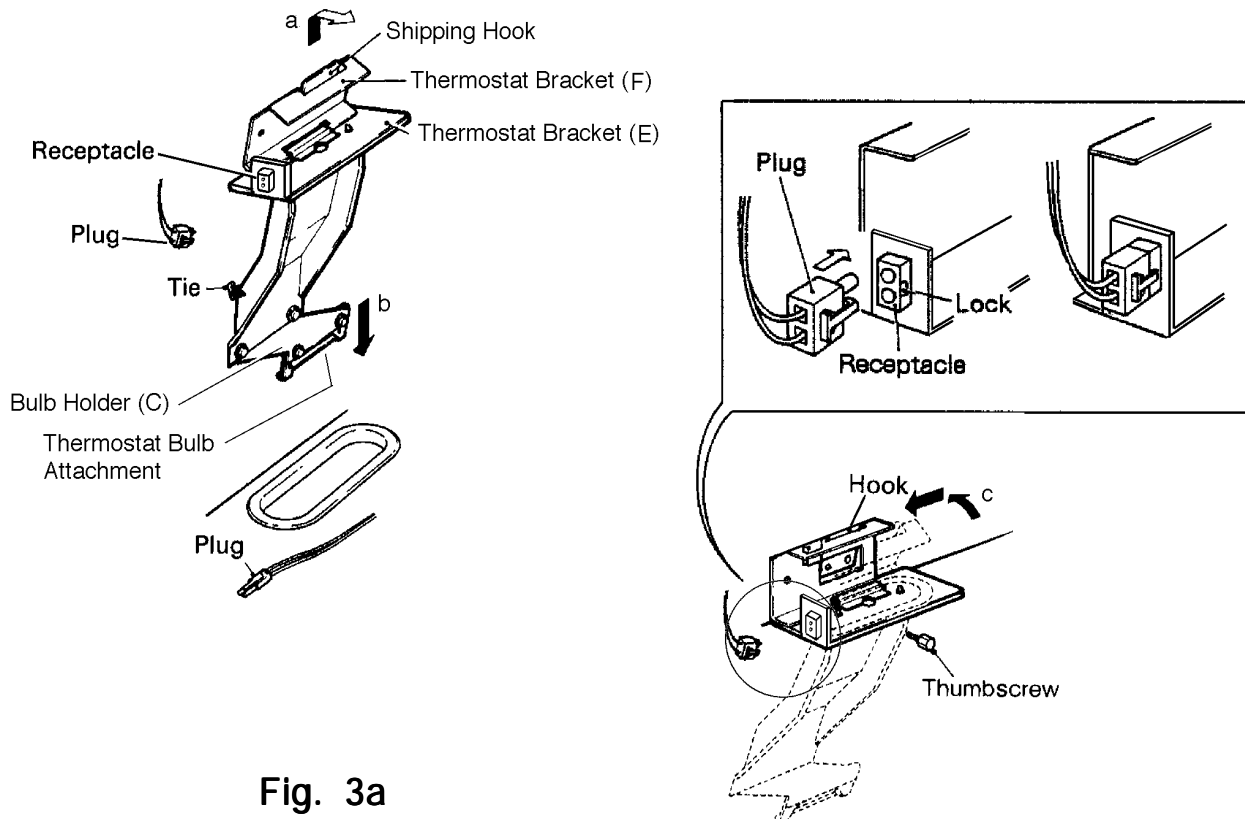

Fig. 3a
- 5) Install the Bin Control Thermostat as follows. See Figures 3a, b and c.
- (a) Remove the Tie securing the Bulb Holder. Remove the Thermostat Bracket (F) from the Shipping Hook by lifting up the Bracket (F) and shifting it to the right.
- (c) Slide the Thermostat Bracket (F) toward you with the bottom surface contacting the Thermostat Bracket (E).
- (d) Hook the Thermostat Bracket (F).